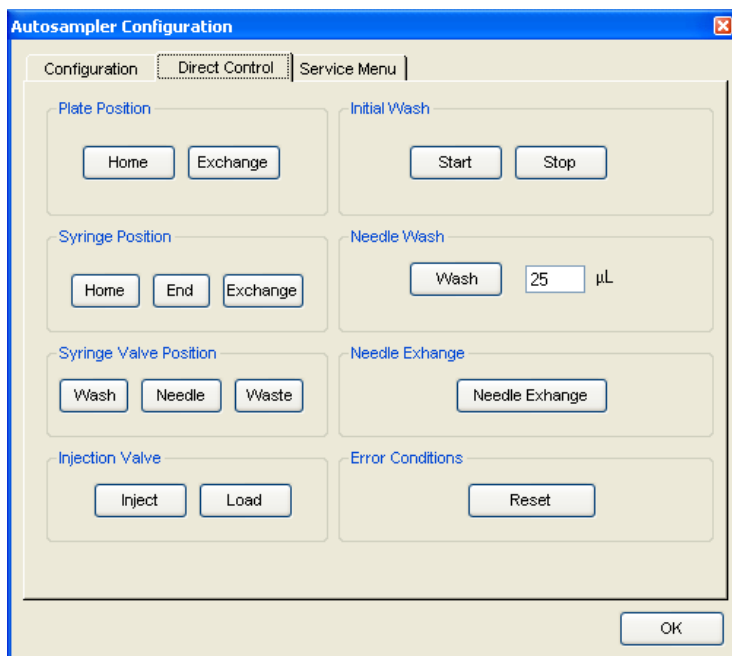

Figure 4-3 Autosampler Configuration Dialog
7. Click of the **Direct Control** tab, then alternately click the **Inject** and **Load** buttons in the **Injection Valve** area to switch the valve in the NanoLC AS-2 autosampler (Figure 4-3).